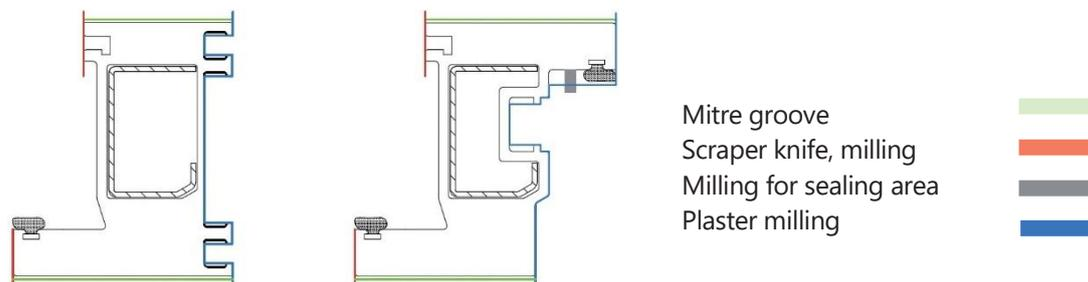

Figure18 : Finishing in the functional areas
- Work very carefully, especially in functional areas (installation of fittings in the Euro groove and flatness of sealing surfaces, etc.), see "Plaster milling" and "Mitre groove" at Figure 18.